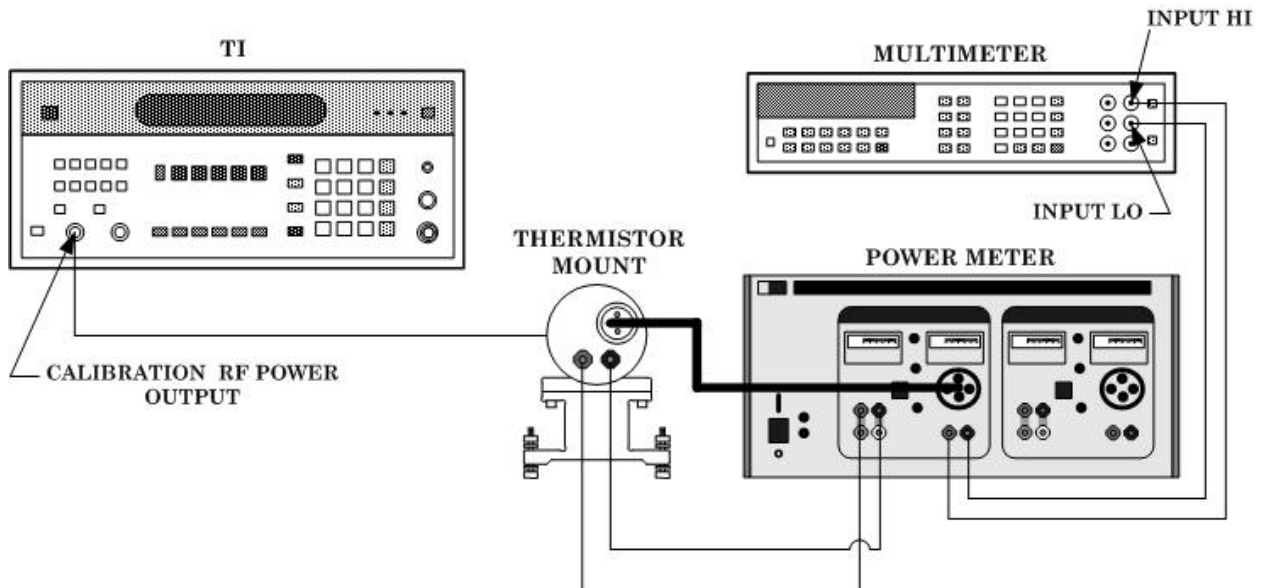

Figure 16. Power reference equipment hookup.
- (1) Connect equipment as shown in figure 16.
- (6) Connect equipment as shown in figure 16.
- (7) Press multimeter keys as listed in (a) through (e) below:
- (8) Press TI keys as listed in (a) and (b) below:
(9) Using the V off value recorded in **13 a** (4) above and C value from **13 a** (7) above, perform the adjustment calculation using the formula below: